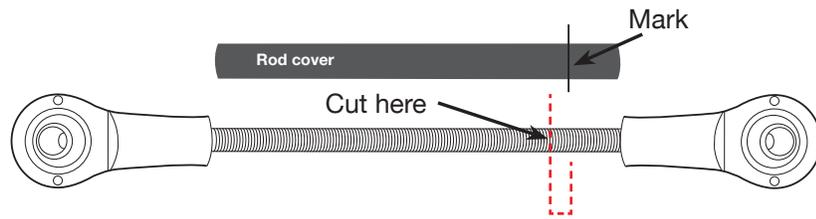

fig. 13
- Remove the rod linkage from the sensor arm and measure 1/2" back from the mark. This will show where to cut the rod (fig. 13).